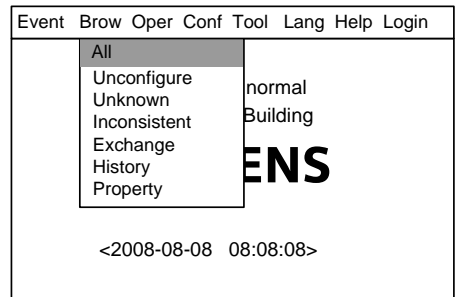
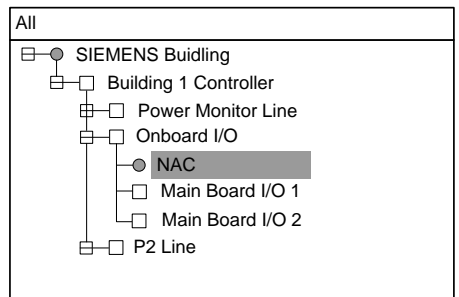

Fig.13-2
Fig.13-3
2. Press “→” to select “Brow” submenu (Fig. 13-2). Press “↓” to select “All”, then press “OK” to display the tree diagram (Fig. 13-3). Search down level by level through stations, lines and points until you find the equipment you are looking for.